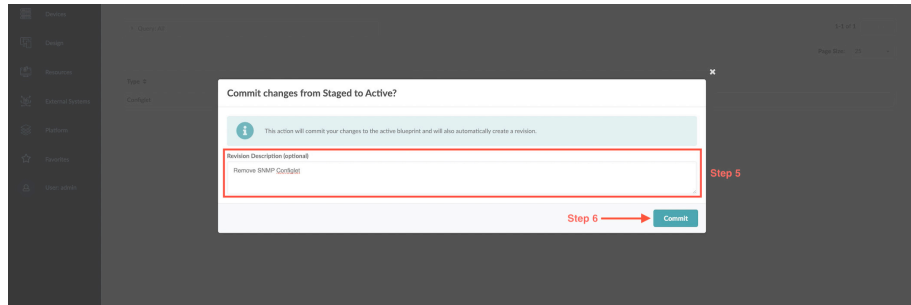

Figure 7.39 Committing the New Configuration to the Fabric
Step 5: Provide a meaningful full description. See Figure 7.39.